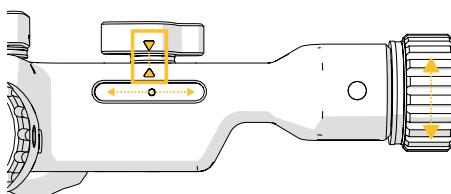

Figure 2: Adjusting the wheel for arrow alignment.
- ✓ Prior to setting up the Precision Targeting System adjust the knobs so that the marked arrows in Figure 2 and 3 match.
3. Adjust the linear adjustment knobs so that the marked arrows in Figure 2 match. The nominal position of the arm is achieved by aligning the arrow heads.